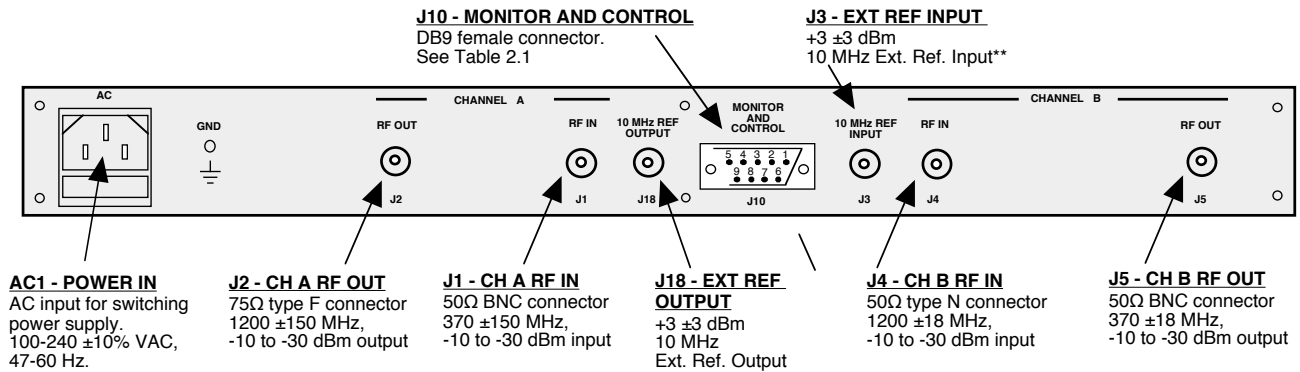

FIGURE 2.1 2083-0312-30036 Rear Panel I/O's
Figure 2.1 shows the input and output connectors on the rear panel.
1. Connect a -10 dBm to -30 dBm signal to IN, J1/J4 (Figure 2.1)